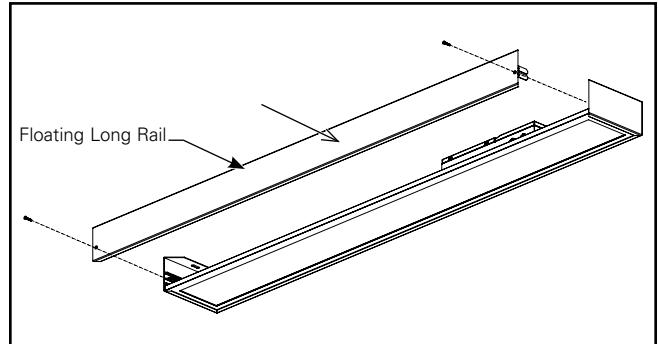

Figure 9.
- A9. Reinstall the floating long rail, L-brackets and screws, and affix the included labels to the floating long rail next to each screw. (Figures 9 and 10.)